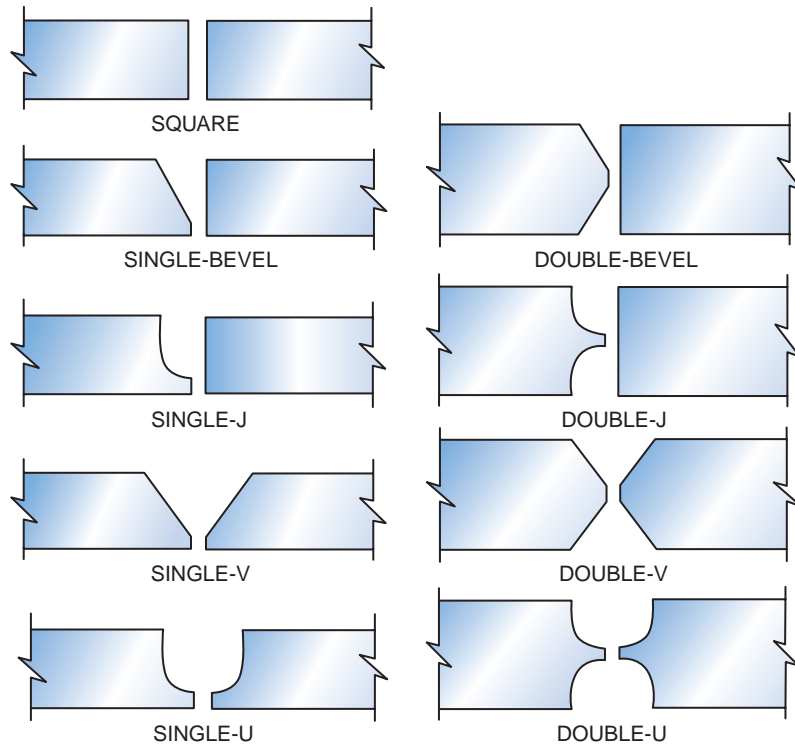

FIGURE 17-3 Edge preparation.
- **Edge preparation**—The joint surfaces that will be melted (faying surfaces) of the mating members that form the joint are shaped for a specific joint. This preparation may be the same on both members of the joint, or each side can be shaped differently, Figure 17-3.
When welding on thick plate or pipe, it is often impossible for the welder to get 100% penetration without using some type of groove. The groove may be cut either into one of the plates or pipes or into both. On some plates, double-sided grooves can be cut on the joint, **Figure 17-3**. The groove may be ground, flame cut, gouged, sawed, or machined on the edge of the plate before or after the assembly. Bevels and V-grooves are best if they are cut before the parts are assembled. J-grooves and U-grooves can be cut either before or after assembly, **Figure 17-3**. The lap joint is seldom prepared with a groove, because little or no strength can be gained by grooving this joint.